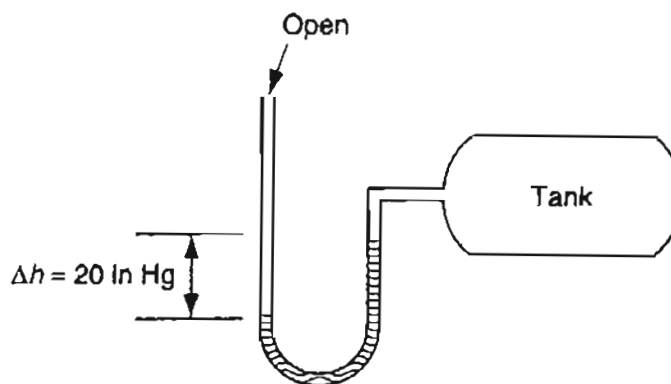

Figure P5.23
- **5.23** Examine Figure P5.23. The barometer reads 740 mm Hg. Calculate the pressure in the tank in psia.